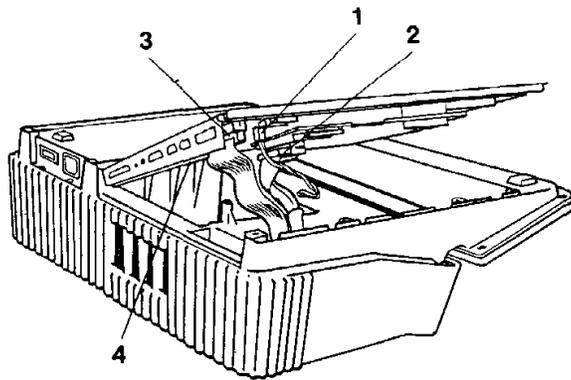

FIGURE 8
5. Rest the access panel on the power supply side and reach under and plug in the power supply. (Figure 8, Item 4).
6. Put in the disk cable. (Figure 8, Item 3).
7. Plug in the keyboard cable. (Figure 8, Item 2).
8. Plug in the speaker cable. (Figure 8, Item 1).